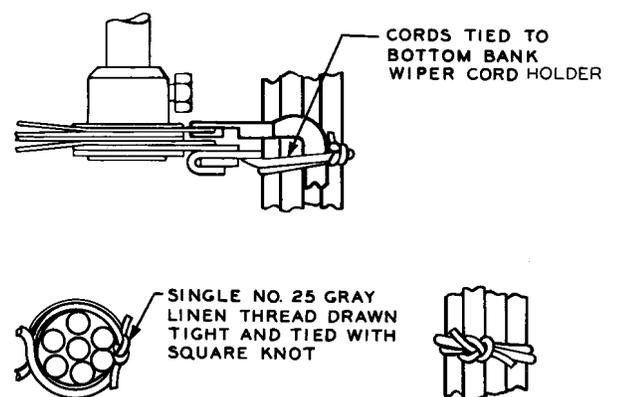

Fig. 23—Method of Tying M1R Wiper Cords to Bank Wiper Cord Holders
3.08 Where switches with two bank wiper assemblies and a commutator are mounted above and sufficiently close to relays to other equipment as to cause the bottom loops of the wiper cords to strike against this equipment, tie the wiper cords at the cord holders of the lowest wiper and commutator, as shown in Fig. 23, to prevent the cords from working up through the cord holder and coming in contact with or snagging on the commutator contacts. Make certain that there is always sufficient slack in the cords to permit the wipers to reach all steps of all levels without strain on the cords.